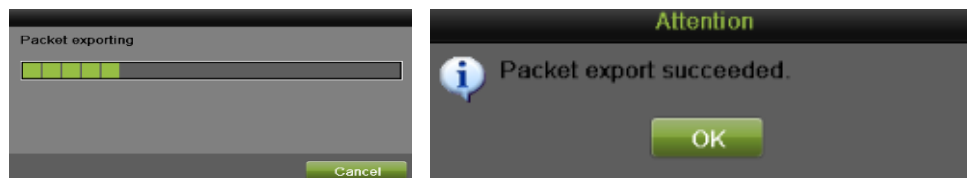

Figure 175 Export Process Bar
4. After the exporting is complete, click OK to finish the packet export, as shown in Figure 175.